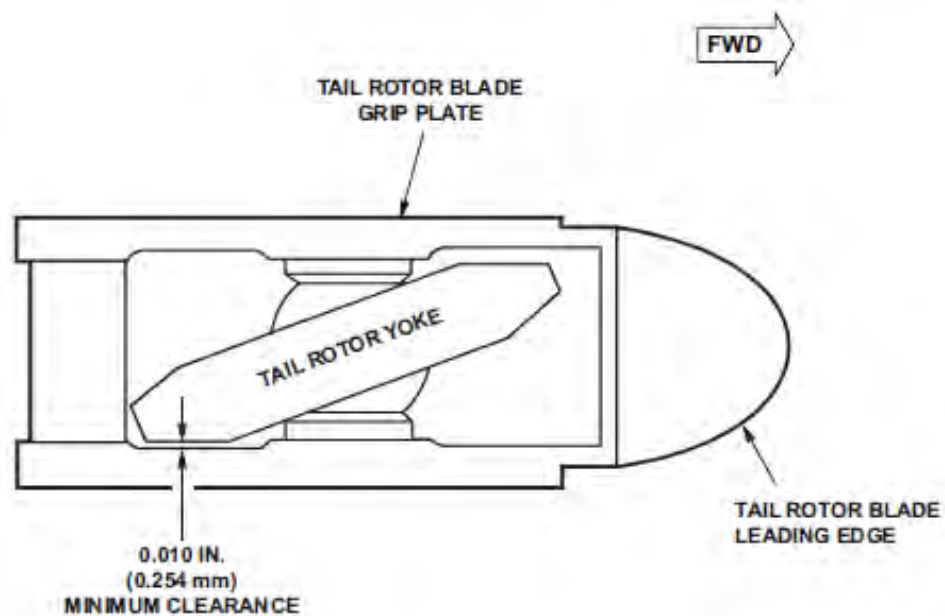

Figure 67-7. Tail Rotor Blade to Yoke Clearance
67.1.8.11 Flap tail rotor assembly to one extreme and check for clearance between blade and tail rotor yoke using a 0.010 in. (0.254 mm) feeler gage (Figure 67-7). Perform clearance check on same blade with tail rotor flapped to opposite extreme. Accomplish clearance check on opposite blade in same manner.
67.1.9.9 Flap tail rotor assembly to one extreme and check for clearance between blade and tail rotor yoke using a 0.010 in. (0.254 mm) feeler gage (Figure 67-7). Perform clearance check on same blade with tail rotor flapped to opposite extreme. Accomplish clearance check on opposite blade in same manner.